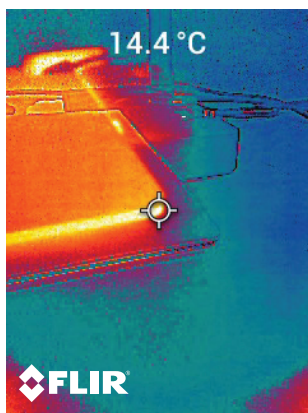

Figure 8.1 Thermal camera image with targeted temperature reading.
2. Point the camera, scan a test surface, and note the targeted temperature measurement on the display in °C or °F, see **Figure 8.1**. The temperature units can be changed in the *SETTINGS > GENERAL SETTINGS* menu (Section 11.6).